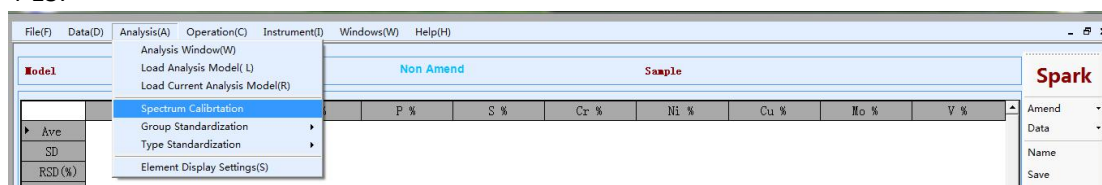

Figure 4-13 Spectrum Calibration
Step 1 Click “Analysis”-“Spectrum Calibration” in menu bar of the software, as shown in Figure 4-13: